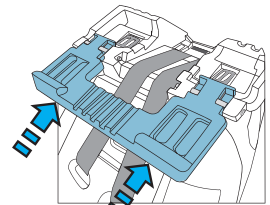

Figure 3
Step 3: Push and Lock Recline Foot into the intended position inside the base (see Figure 3).